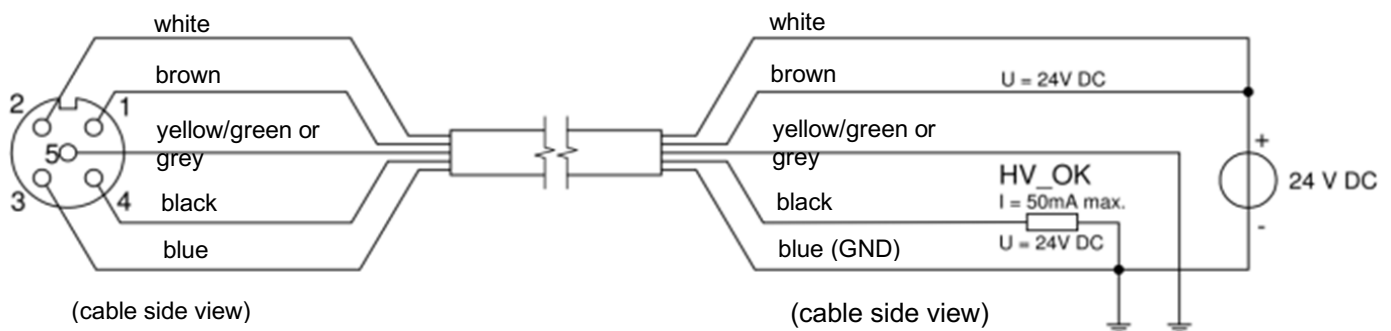

Figure 5: wiring supply cable Cleanflex Easy
- Connect the wiring according to figure 5 and table